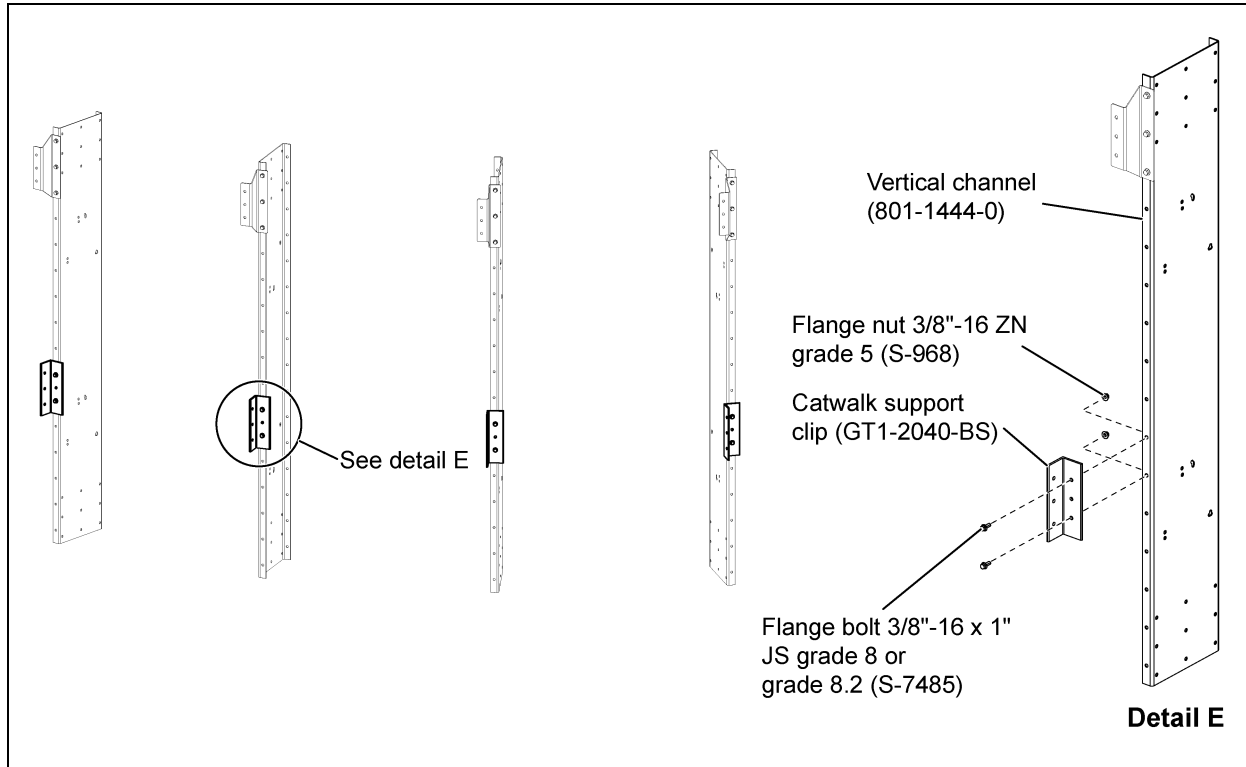

**Figure 6G** Offset Catwalk Support Clip Installation
1. Install catwalk support clips (GT1-2040-BS) to vertical channels (801-1444-0). Support clip can be installed on each vertical channel as the wall sheets are installed using 3/8"-16 x 1" JS grade 8 or grade 8.2 bolts (S-7485) and 3/8"-16 ZN grade 5 nuts (S-968). (See Figure 6G below and Figure 6I on Page 52.)